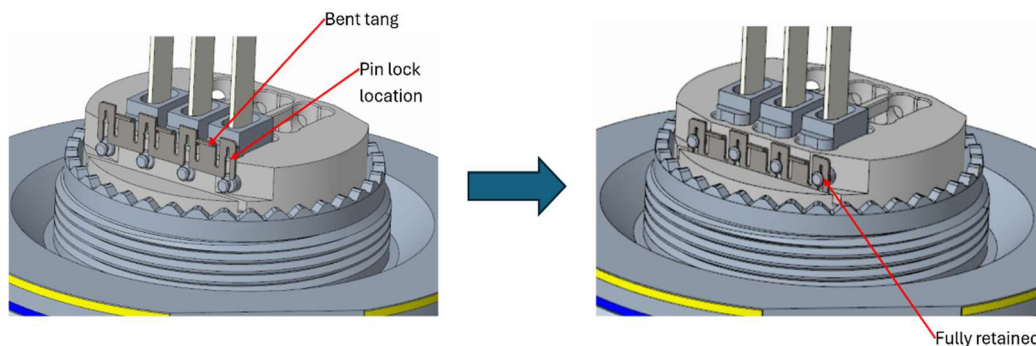

Figure 12
- Seat the cross-pin retention plate until all pins are locked in place – see *Figure 12*.